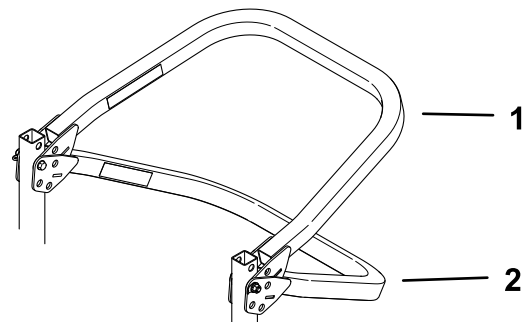

Figure 10
**Note:** There are 2 down positions, as shown in Figure 10.